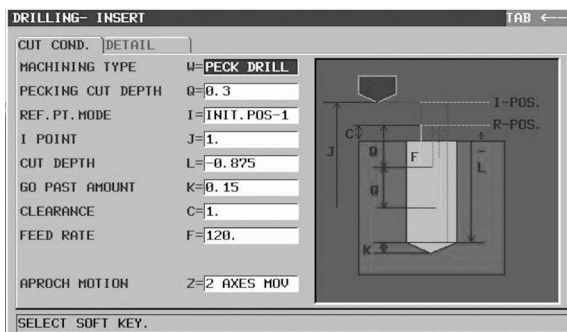

Figure 7-71 DRILLING CUT CONDITIONS
- Complete the DRILLING CUT CONDITIONS dialog, as shown in Figure 7-71. Do not change anything in the DETAIL tab. Press the INSERT soft key.
- From the HOLE POSI tab, choose item 5. XY-RECTANGLE POINTS pattern.